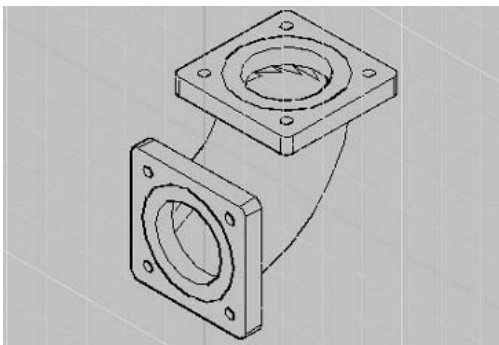

Figure 26-123 Resulting model after Step 12
10. Similarly, create the flange for the other face of the pipe. The resulting model should be similar to the one shown in Figure 26-123.